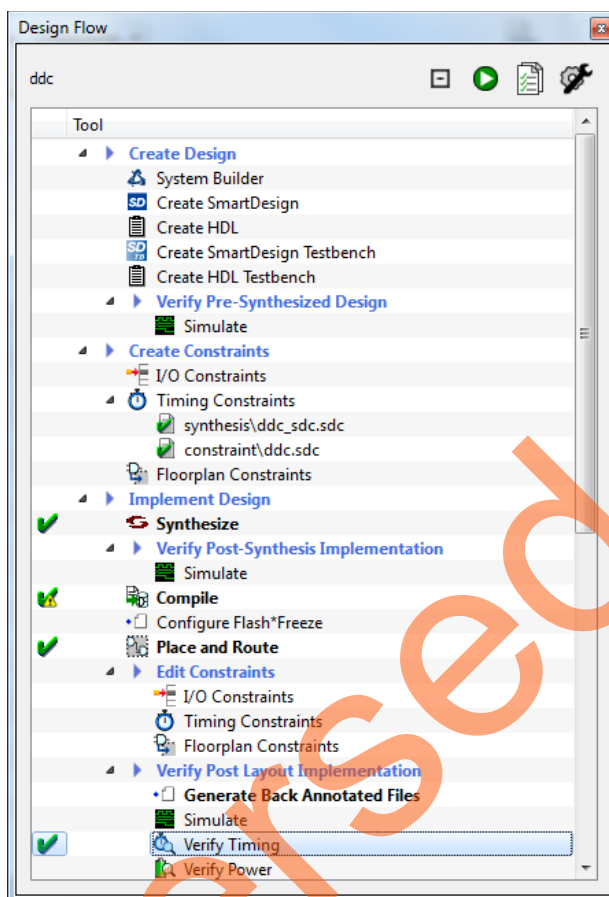

Figure 35. Implementing Place-and-Route
- On the **Design flow** tab, right-click **Verify Timing** and select **Run**. After successful completion, a green tick mark is displayed next to **Place and Route** and **Verify Timing**, as shown in Figure 35.